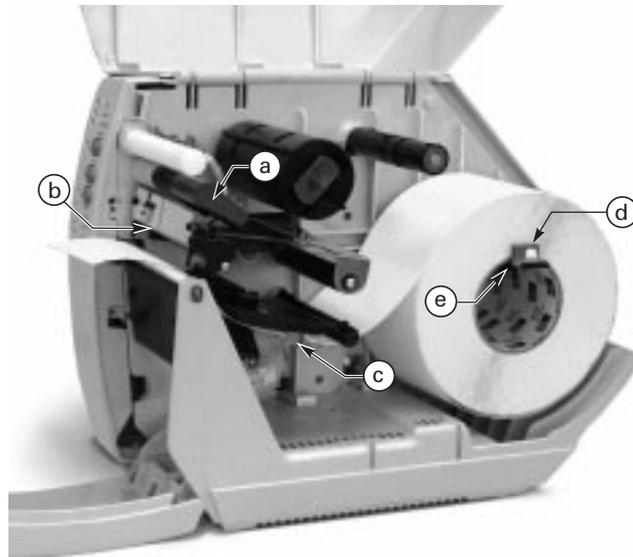

Figure 7
1. Refer to Figure 7. Move the head open lever (a) counterclockwise to the open position to raise the printhead (b).